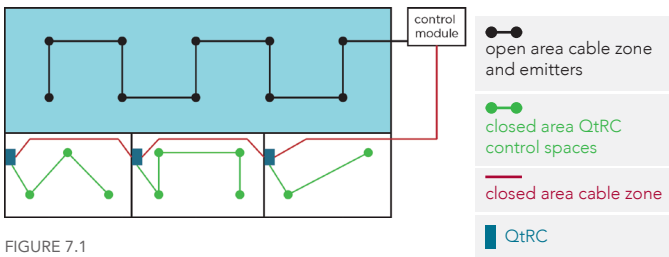

FIGURE 7.1
In the diagram below, Figure 7.1, the control module has two or more zones.
**Note:** Since each QtRC has a built-in splitter, there is no need for an extra splitter or cabling when implementing the layout shown in Figure 7.1.